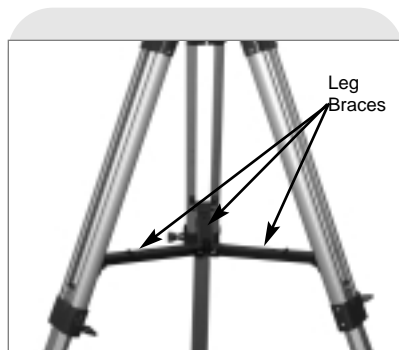

Fig. 3: Tripod assembly.
- 35 **Tripod Leg Adjustment Knobs (3):** Tighten to a firm feel to secure tripod legs.
- 36 **Variable Height Tripod Legs (3):** Supports the telescope mount. Note that one leg has a star stamped on top of it. This leg must be pointed North (South in the Southern hemisphere) during the alignment procedure. The mount attaches to the top of the tripod.
- 38 **Tripod Leg Braces (3):** Make the tripod more secure and stable. See Fig. 3.
2. **Adjust the tripod legs.** Spread the tripod legs as far as they will open, so that the leg braces are taut. See **Fig. 3**.